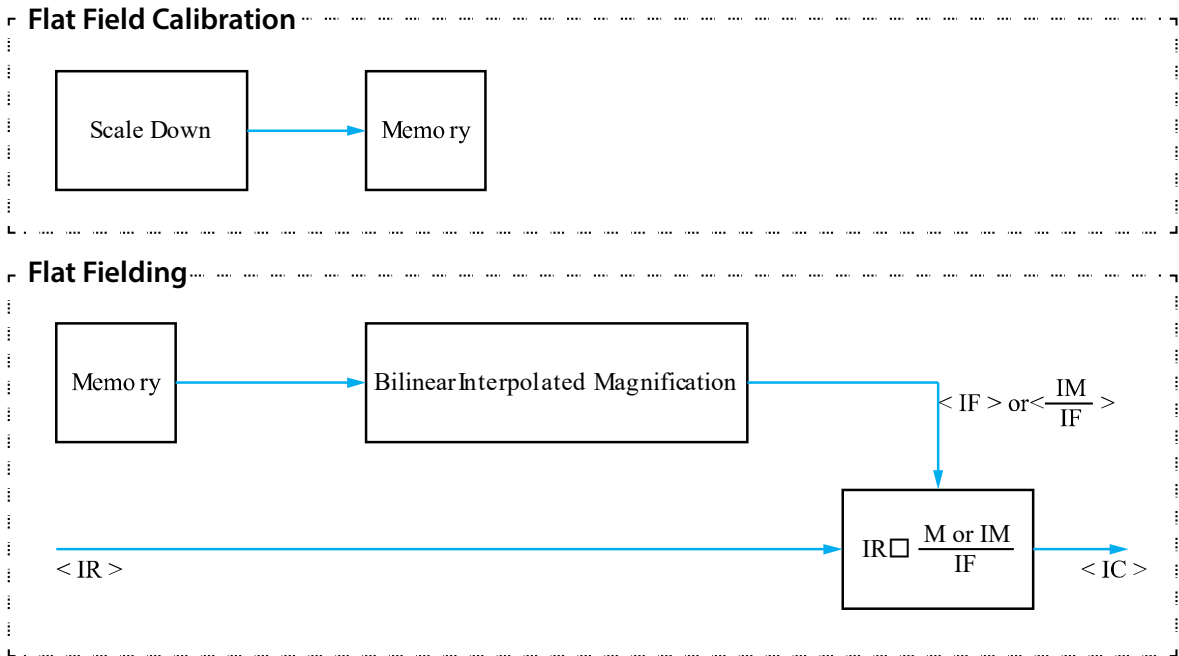

Figure 9-8 Generation and Application of Flat Field Data
3. Execute the Flat Field Data Save parameter to save the generated Flat Field data into the non-volatile memory. When the scaled down Flat Field data are used for correction, they are expanded and applied with a Bilinear Interpolation as shown in the Figure 9-8.